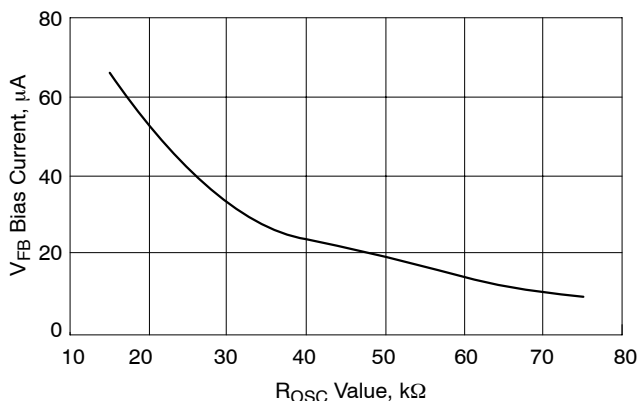

Figure 4. VFB Bias Current vs. ROSC Value
- The V_{FB} Bias Current changes with the value of R_{OSC} per Figure 4.
To set the no–load positioning a resistor (R9) is placed between the output voltage and V_{FB} pin. The V_{FB} bias current will develop a voltage across the resistor to decrease the output voltage. The V_{FB} bias current is dependent on the value of ROSC. See Figure 4 on the datasheet.